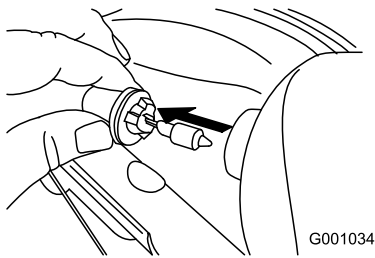

Figure 55
3. Remove the bulb straight out from the back of the headlight (Figure 55).